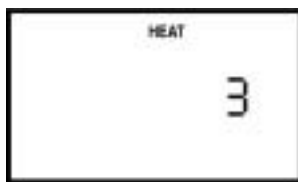

Figure 6–6 Humidifier Setting Screen
1. From either the Standby or Monitoring screen, press and hold the **Heat** key for approximately 4 seconds. The Humidifier Setting screen appears, as shown in Figure 6–6.